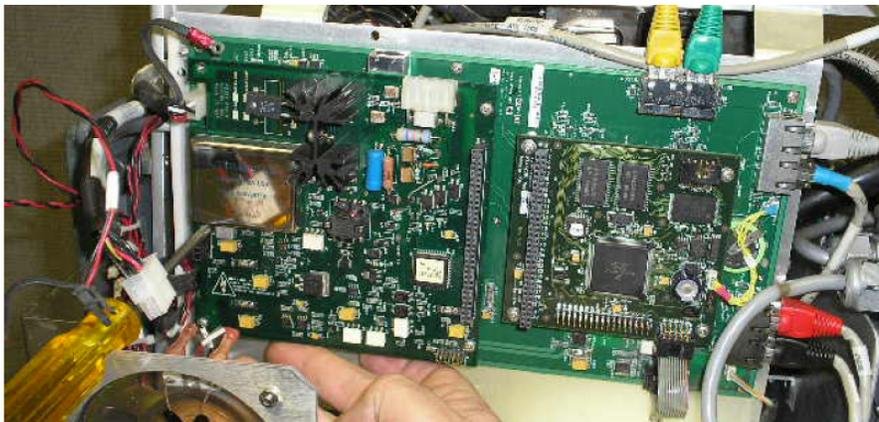

Figure 1-11 Electronics Assembly Extraction
- a. Grasping the assembly either from the bottom (Figure 1-11) or by the two metal tabs at the top and wiggling the assembly upwards by about 2 ½" (as the cable harness allows).